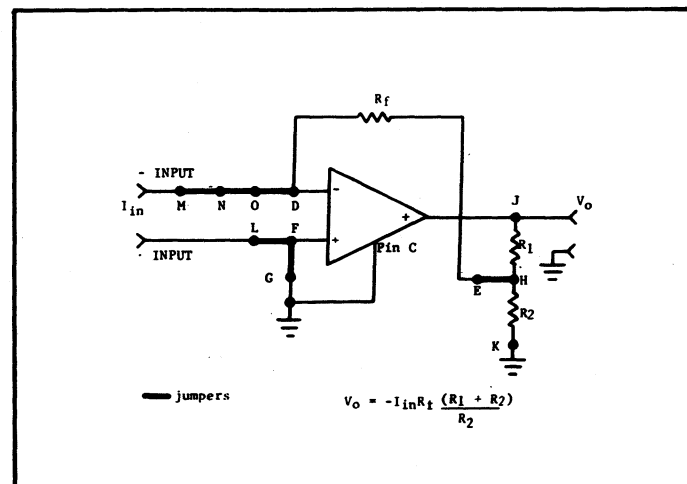

FIGURE 7. Current Amplifier
2. Linear Current Amplifier (With Fractional Feedback). In this mode the feedback resistor is connected as shown in Figure 7. Two additional resistors R_1 and R_2 are connected as shown in Figure 7. Resistor R_1 replaces the jumper between terminals J-H. With this connection the output voltage is proportional to the input current where $V_o = -I \times R_f [(R_1 + R_2)/R_2]$. The value of $R_1 + R_2$ should be greater than 1000 ohms so that the output current does not exceed 11 milliamperes.